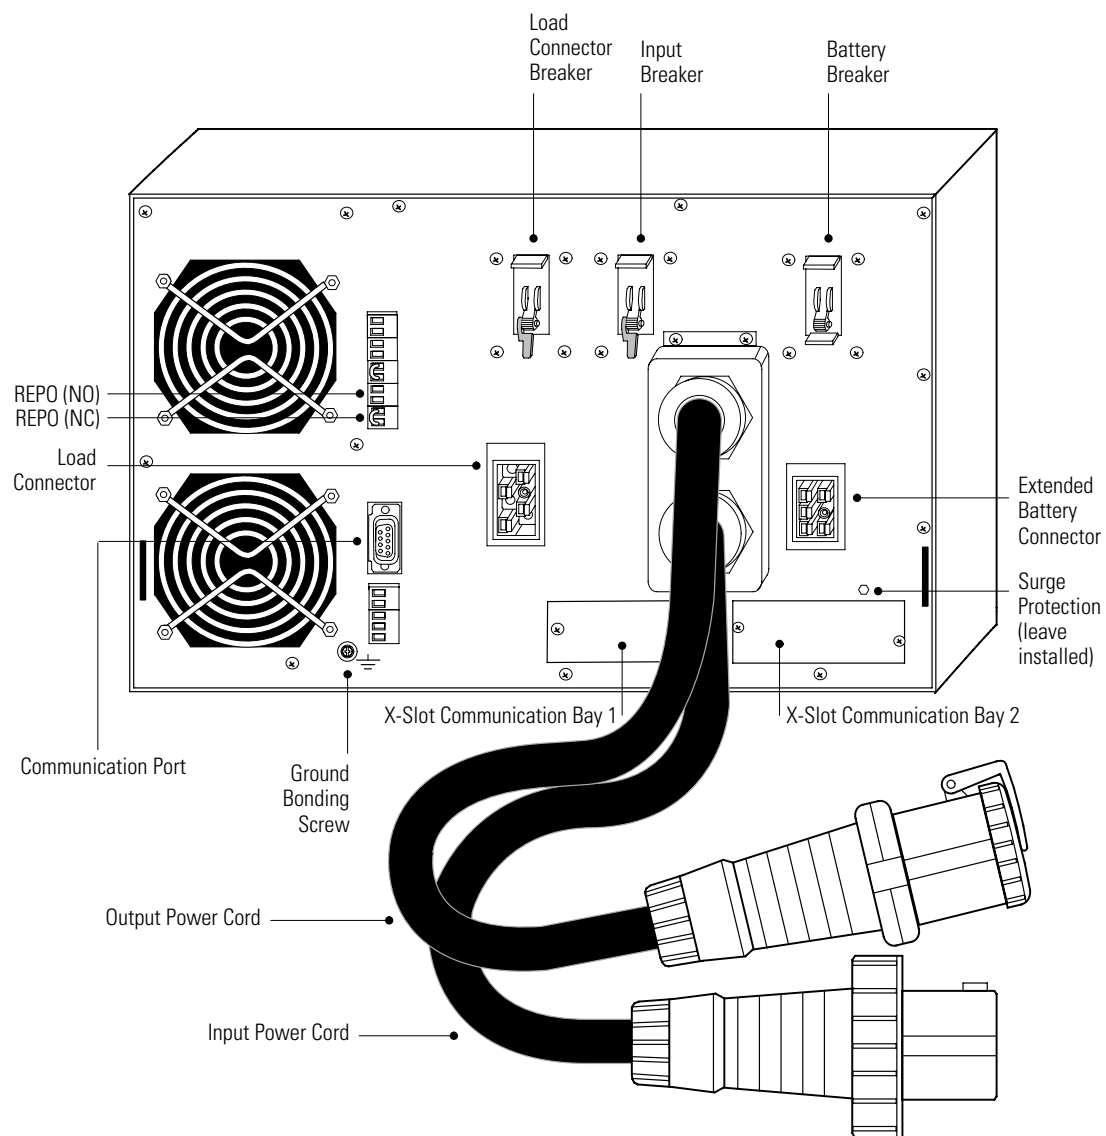

Figure 30. BladeUPS Rear Panel (Standalone UPS Shown with IEC 309-60A Output Power Cord)
1. Verify that the circuit breakers on the UPS rear panel are in the OFF (O) position (see Figure 30 on page 49).
2. Verify that all circuit breakers are in the OFF (O) position.
4. If your rack has conductors for grounding or bonding of ungrounded metal parts, connect the ground cable (not included) to the ground bonding screw. See Figure 30 for the location of the ground bonding screw.
NOTE It is recommended to install the Powerware Hot Sync CAN Bridge Card in X-Slot Communication Bay 2 (see Figure 30 on page 49), leaving the X-Slot Communication Bay 1 available for other types of X-Slot cards.
16. If your rack has conductors for grounding or bonding of ungrounded metal parts, connect the ground cable (not included) to the ground bonding screw. See Figure 30 on page 49 for the location of the ground bonding screw.
- 12.** If your rack has conductors for grounding or bonding of ungrounded metal parts, connect the ground cable (not included) to the ground bonding screw. See Figure 30 on page 49 for the location of the ground bonding screw.